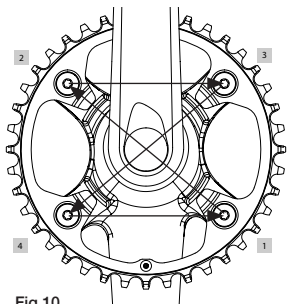

Fig.10
- Follow a crosswise order to tighten the four screws (1-2-3-4) (Fig. 10).